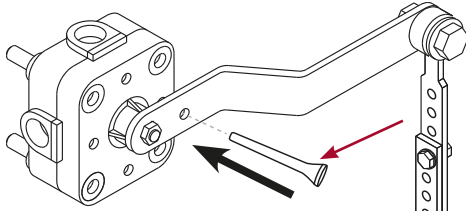

Figure 187: Insert Wooden Dowel
7. If not already fitted, install wooden centring pin to hold valve in neutral position. Refer Figure 187.